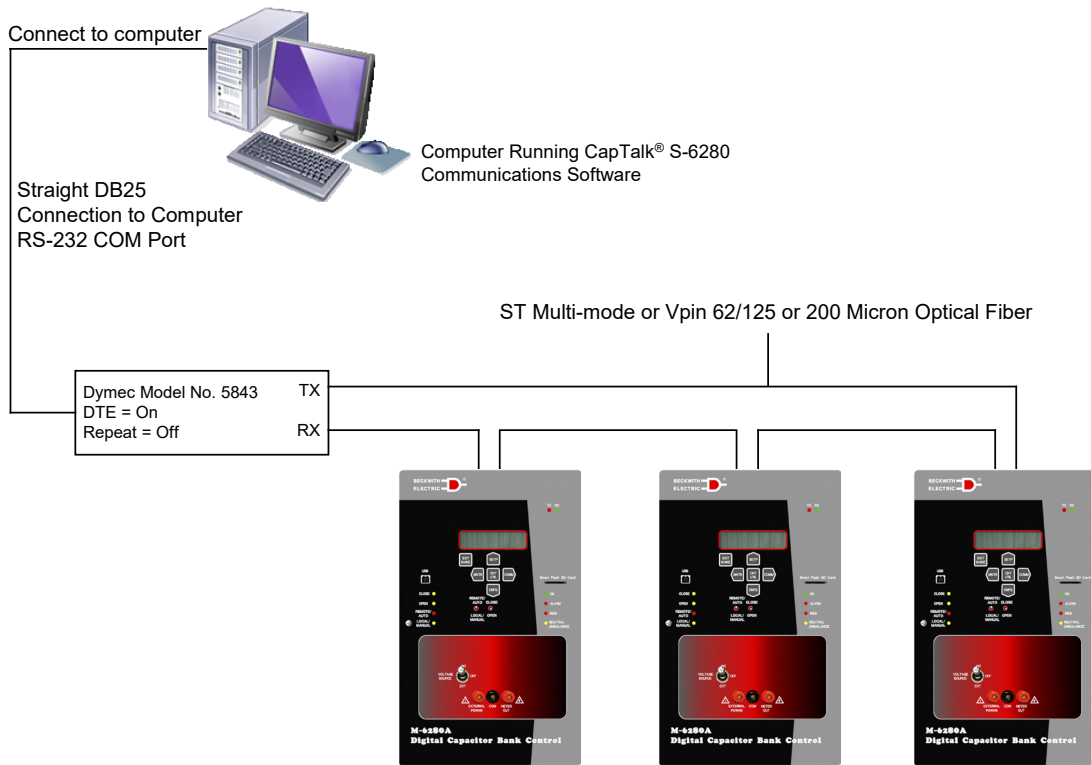

Figure 3 Fiber Optic Connection Loop
**Communications Using Networking:** The addressing capability of the M-6280A allows networking of multiple M-6280A's. Each capacitor bank control can be assigned an Address, Feeder Address or Substation Address ranging from 1 to 65519. Selected commands may be broadcast to all controls on the network. Figures 3, 4 and 5 illustrate typical network configurations. Addresses 1-255 can be assigned to MODBUS and 1-65519 for DNP 3.0.